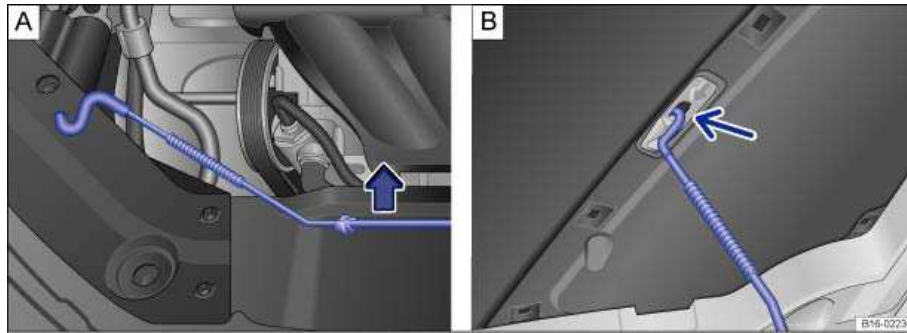

Fig. 138 A: In the engine compartment: Bracket for hood support. B: Hood propped open.
- Pull the hood support out of its bracket in the direction of the arrow ⇒ fig. 138 A and insert it into the opening in the hood **B** (arrow).